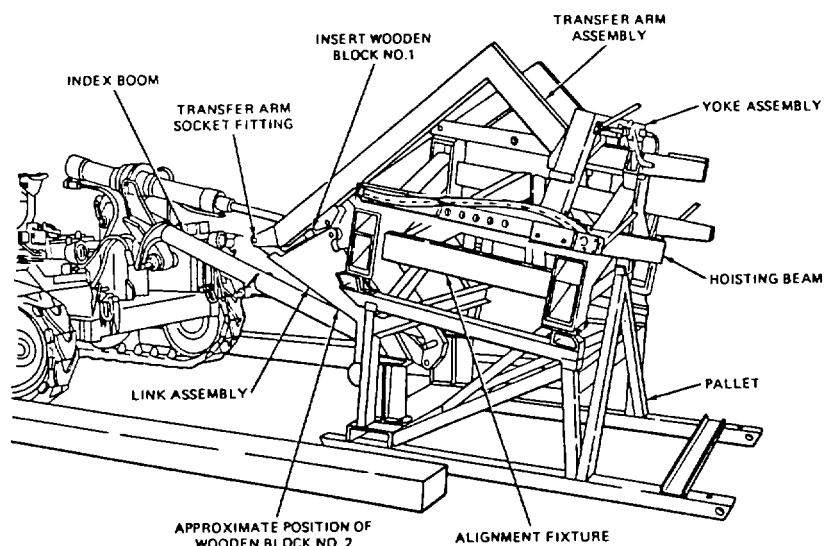

Figure 6-11. Superstructure Alignment Fixture Installation.
(3) Hydraulic Components. All hydraulic components will be checked for leaks, signs of excessive wear and unsafe operating conditions.
c. Check loader alignment using alignment fixture (figure 6-11) installed on pallet.
(1) Extend superstructure until hoisting beams are in latching position on the alignment fixture.
(2) Activate the latching levers to slip the latches into the fixture's latch wells.